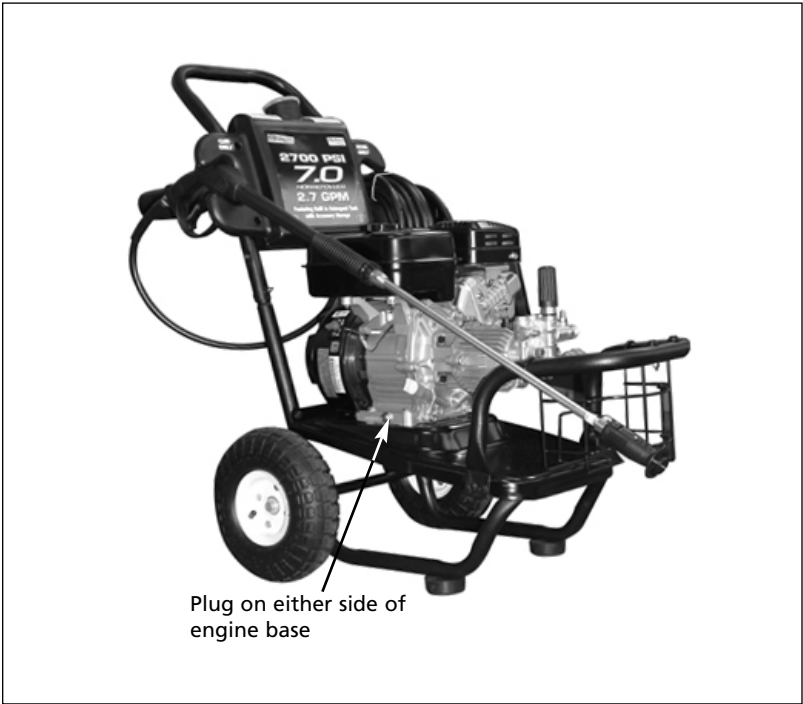

Figure 21 - Oil Drain Locations (also see Figure 22)
- 2. Locate and remove the engine oil drain plug (see Figure 21).